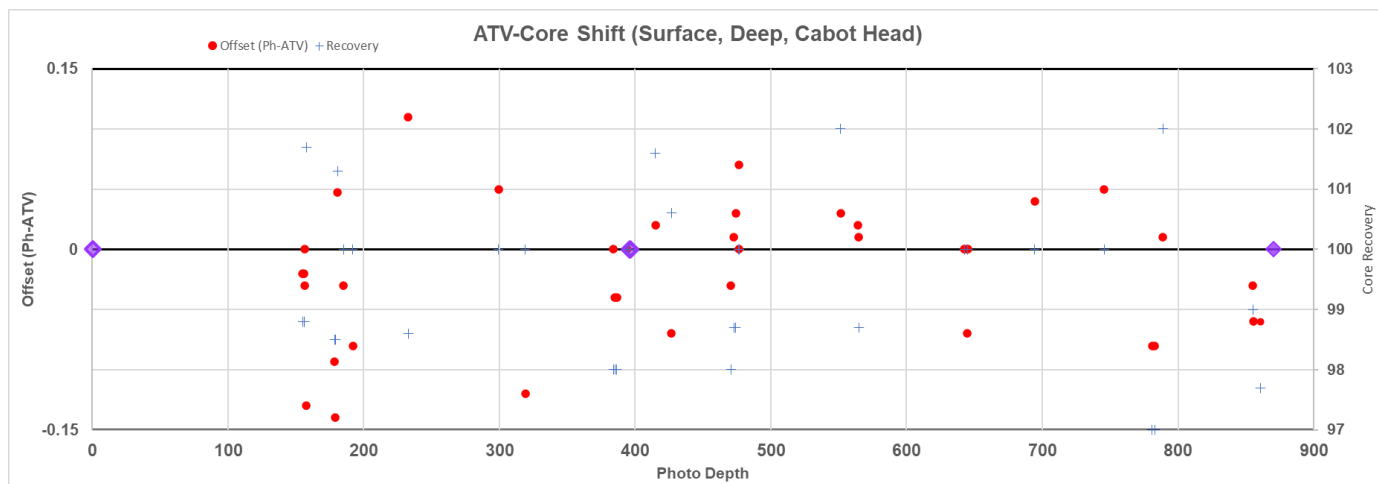

Figure 5 Core to ATV Offset after Depth Adjustment
3. After depth adjustments were completed based on these two features, the overall accuracy of alignment between stretched ATV and core photos was completed. In total, an additional thirty-eight other distinct, unambiguous bedding surfaces and fractures were identified along the entire borehole length in the both the core photos and the ATV image and were compared. Figure 5 shows the offsets observed between these features in core photos and the ATV images plotted against depth (mBGS) as well as the percent recovery for the specific core run in question. Overall, the offsets are shown to be within +/- 15 cm and were considered to be acceptable.